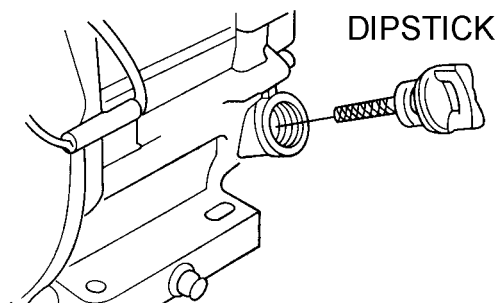

Figure 21. Engine Oil Dipstick Removal
2. Remove the dipstick from the engine oil filler hole (Figure 21) and wipe clean.